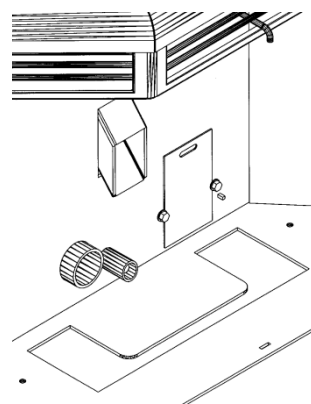

FIGURE 15
- e. Scrape ash in firebox into the under-stove bin through the opening (see Figure 15) or vacuum to remove ashes.